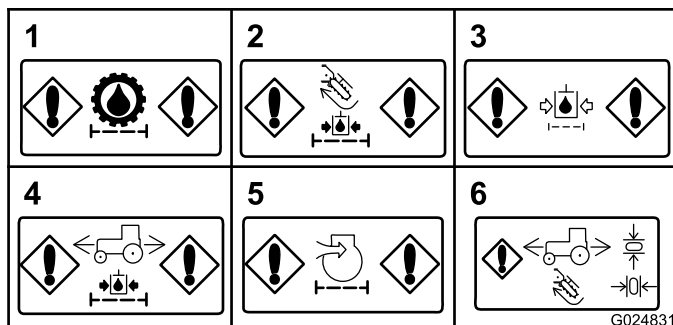

Figure 33
- **Hydraulic-charge filter restriction (accessories)**—This message is displayed if the charge filter for the hydraulic circuit for the accessories is restricted (Figure 33).
- **Hydraulic-return filter restriction**—This message is displayed if the hydraulic-return filter is restricted (Figure 33).
- **Hydraulic-charge filter restriction (traction motor)**—This message is displayed if the charge filter for the traction motor is restricted (Figure 33).
- **Air-filter restriction (engine)**—This message is displayed when the air filter requires service (Figure 33).
- **Return to Neutral indicator**—This indicator is displayed if you attempt an operation that requires you to return the joystick or the traction pedal to the Neutral position. Return the joystick or the traction pedal to the Neutral position before continuing operation (Figure 33).
- **Hydraulic-charge filter restriction (transmission)**—This message is displayed if the hydraulic-charge filter for the transmission is restricted (Figure 33).